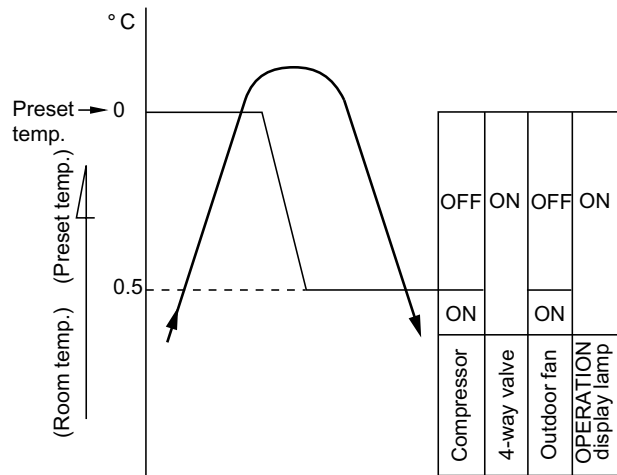

**Fig. 7-3-7**
- (2) The microprocessor turns the compressor on and off at the regular intervals (4 to 6 minutes). While the compressor is turning off, the indoor fan motor operates in the SUPER LOW position. The pattern of operation depending on the relation between room temperature and preset temperatures is shown in Fig. 7-3-7.